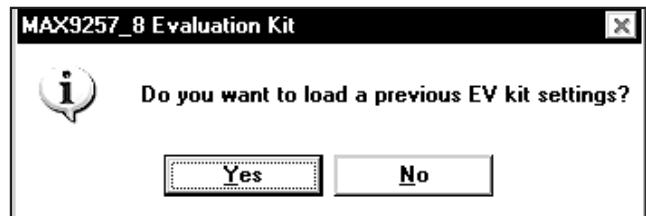

Figure 2. MAX9257/MAX9258 Evaluation Kit Software—Load Previous EV Kit Settings
13) The next popup window (Figure 2) asks if you want to load a previous EV kit setting from a file. If this is the first time the software is run, you can choose from three EV kit setting files included with the software: **NeverComeBackSettings.txt**, **FiniteCTOSettings.txt**, or **I2CSettings.txt**. Press the **No** button.